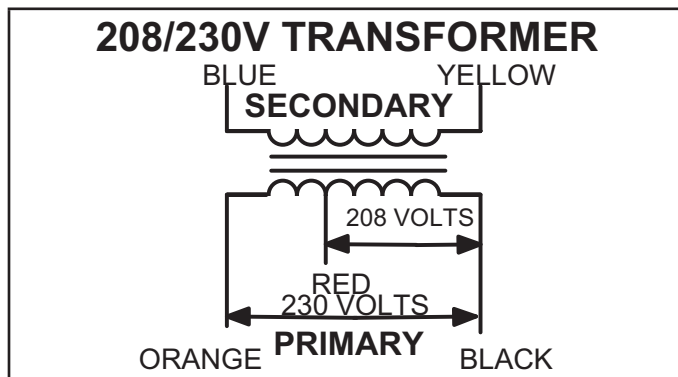

FIGURE 4
All units use a single line voltage to 24VAC transformer-mounted in the control box. The transformer supplies power to control circuits in the unit. The transformer is rated at 70VA and is protected by a 3 amp (auto) fuse F1. The 208/230 (Y) voltage transformers use two primary voltage taps as shown in FIGURE 4, while 460 (G) and 575 (J) voltage transformers use a single primary voltage tap.